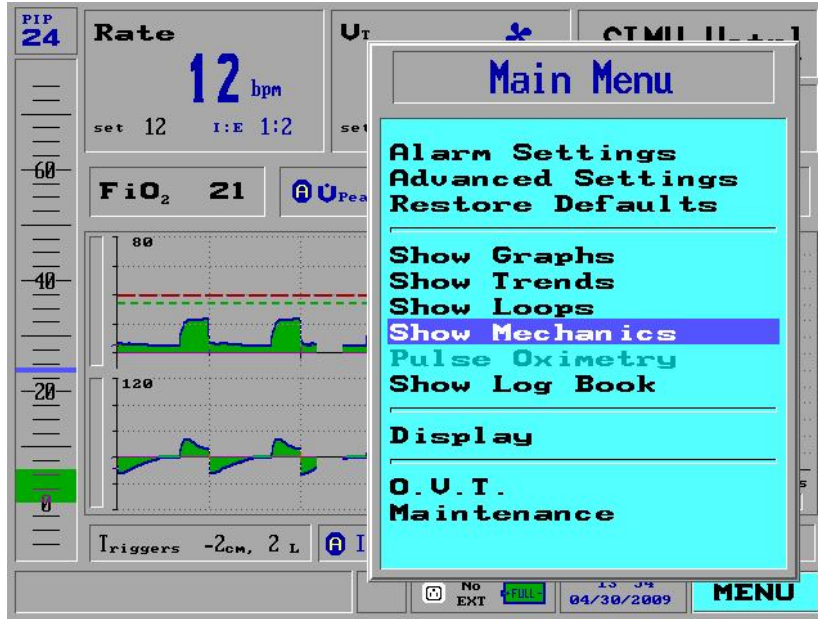

Figure 115: Show Mechanics Selected
2. Select the **Show Mechanics** option (Figure 115).